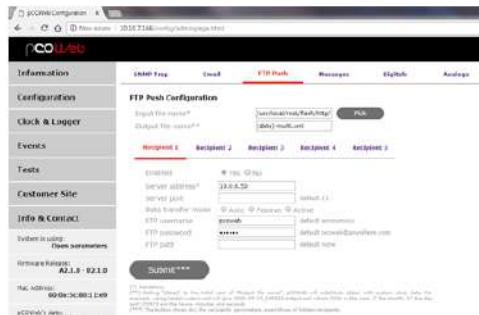

Figure 4.q - FTP PUSH configuration
- **“Messages”**: Notification Messages allow customization of the strings identifying the events for integer and analog variables (Figure 4.r). The settings in this window will only be used for e-mail and SNMP TRAP/INFORM messages and will be common to the events generated by all the integer and analog variables. In the e-mail notifications, the suitable string will be automatically added to the “Subject” field, separated by a dash; in the SNMP TRAP notifications, the OID will be included automatically, with the corresponding string and contents, based on the event, as follows (see paragraph 6.2):